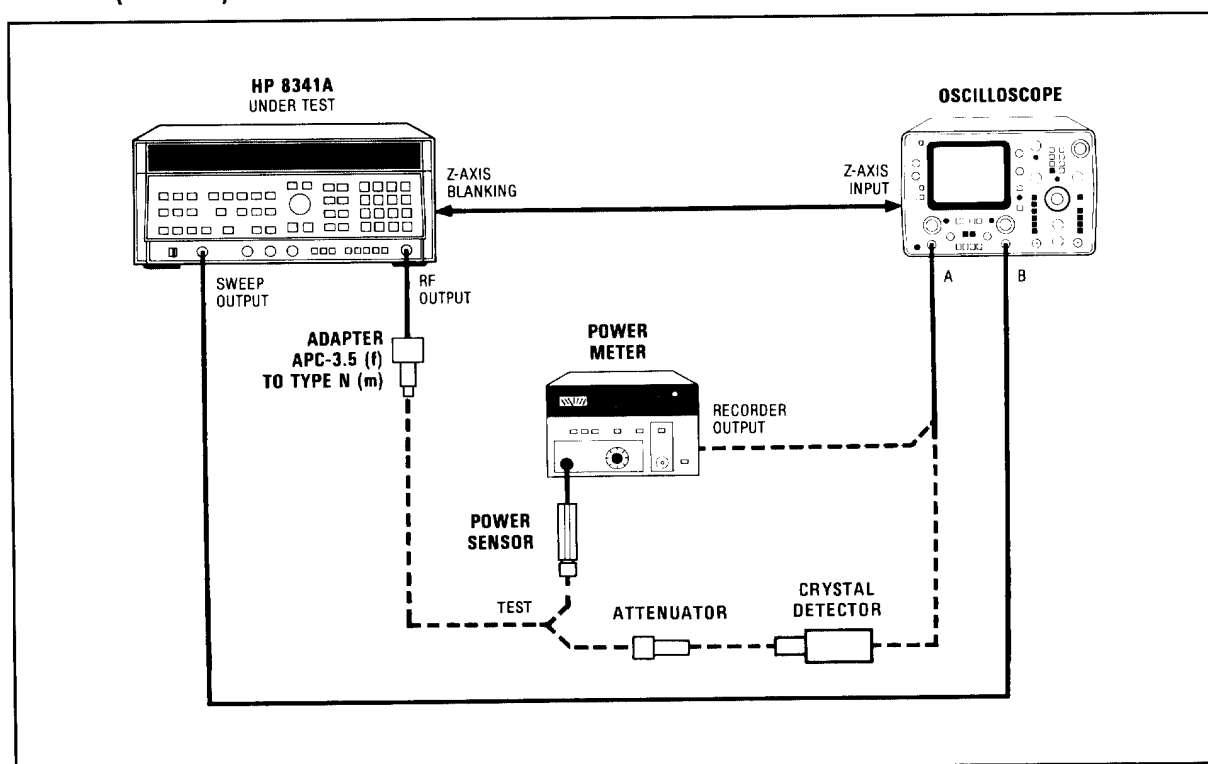

Figure 4-5. Maximum Leveled Output Power and Power Accuracy Test Setup.
1. Connect the equipment as shown in Figure 4-5. Connect the 10 dB pad and crystal detector to the HP 8341A RF output and connect the detector output to the oscilloscope channel A input. Allow at least 30 minutes warm up time.